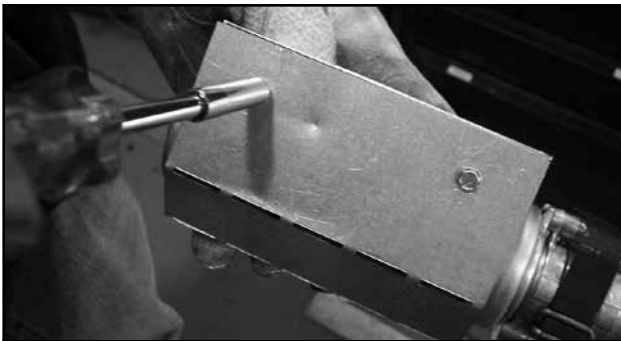

Figure 3
- Secure bracket to fan with two screws as shown in Figure 3.